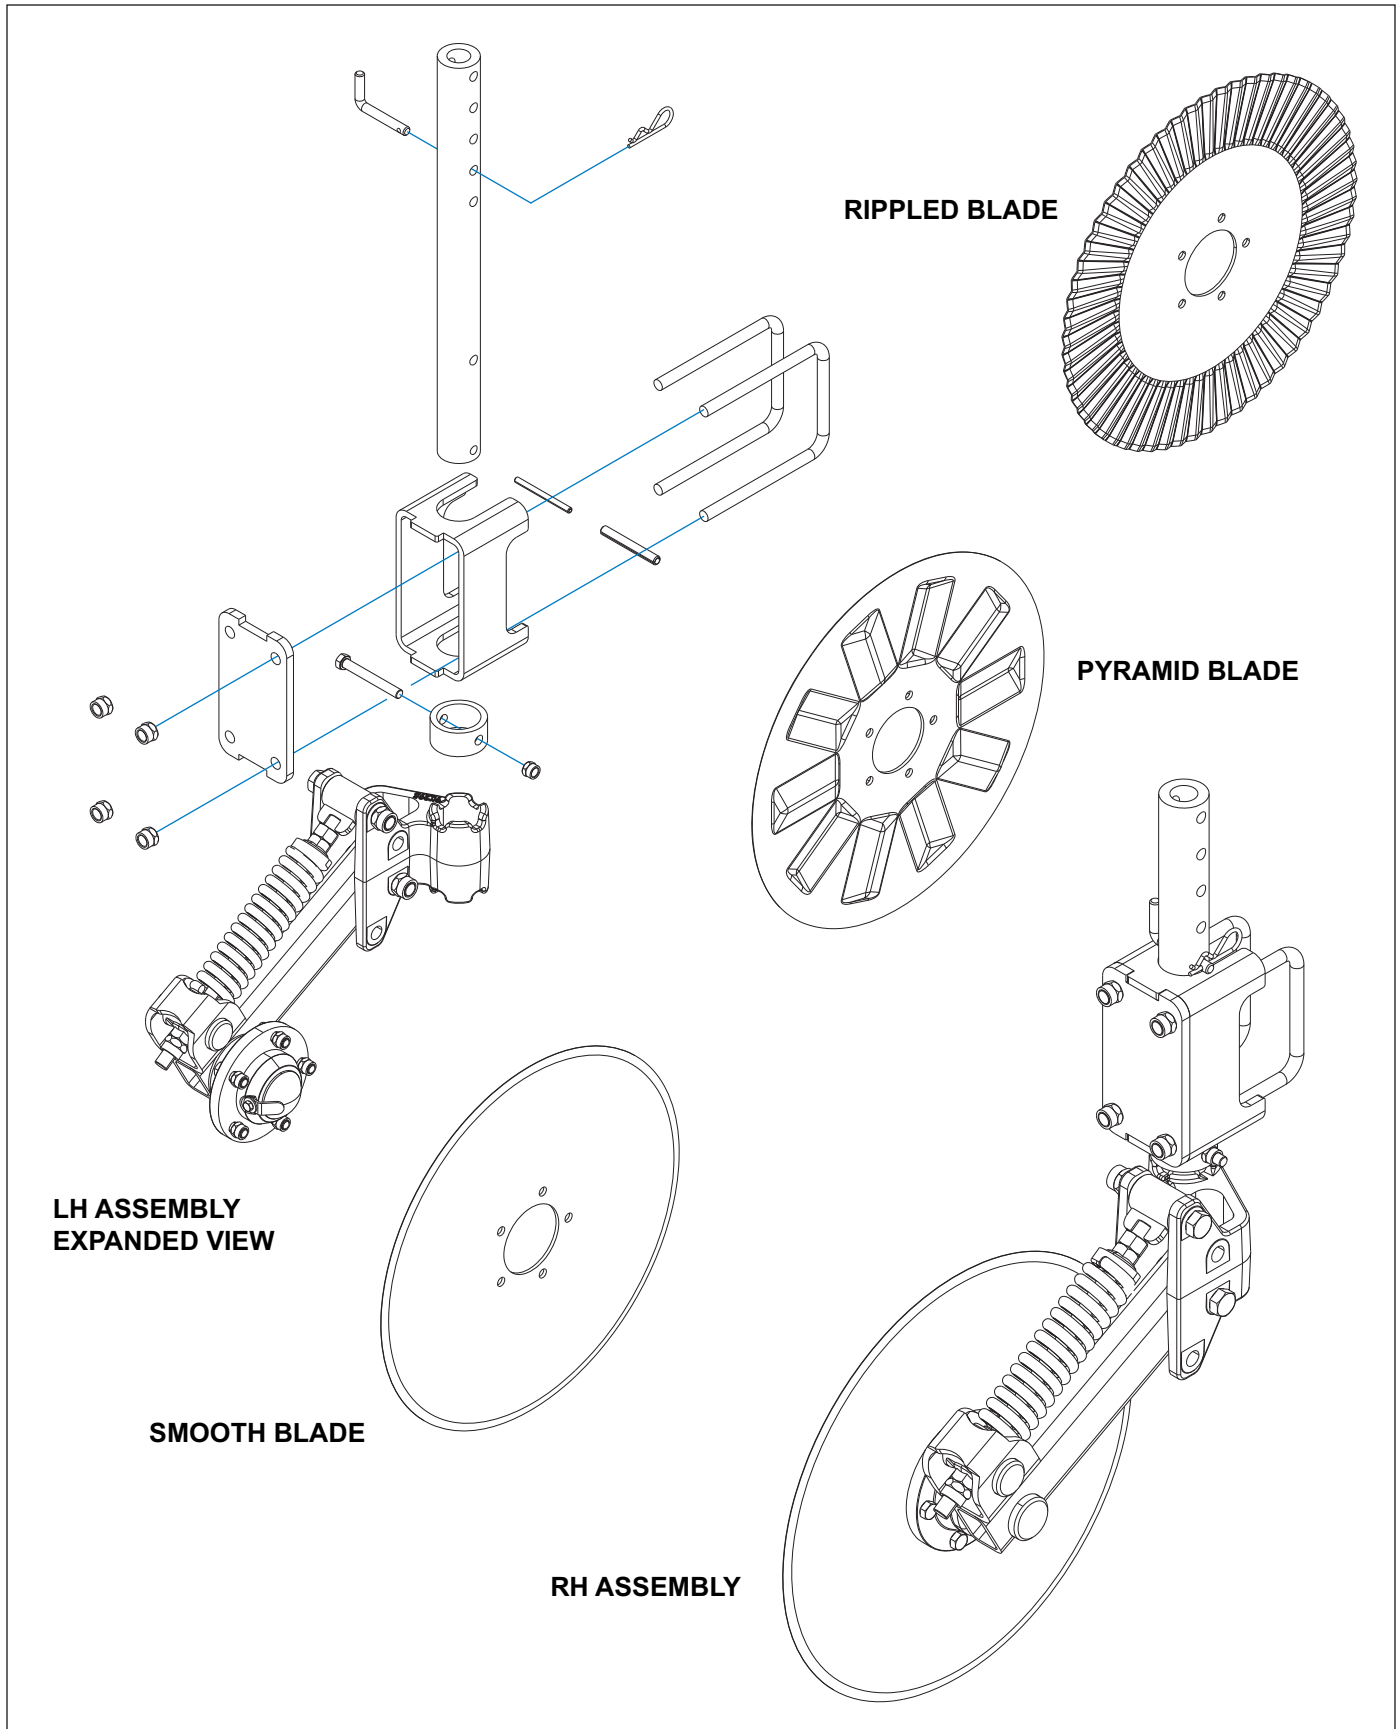

Figure 3-6: Coulters Assembly
1. Assemble coulter adjustment tube to coulter assembly using roll pins 1/2 x 4 and 5/16 x 4. Assemble the coulter stop to the coulter adjustment tube using 1/2 x 4 screw and nut. (See Figure 3-6)